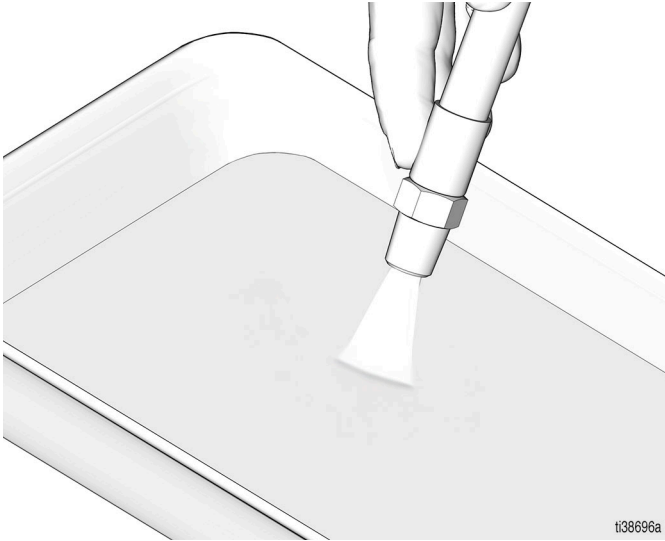

FIG. 11
2. Open the Bleed-Type Master Air Valve (E) and close the Fluid Drain Valve (H). See **Typical Installation**, page 6.
3. Flush the fluid being dispensed through the equipment until the fluid runs clear of particles or visible contaminants (FIG. 11).